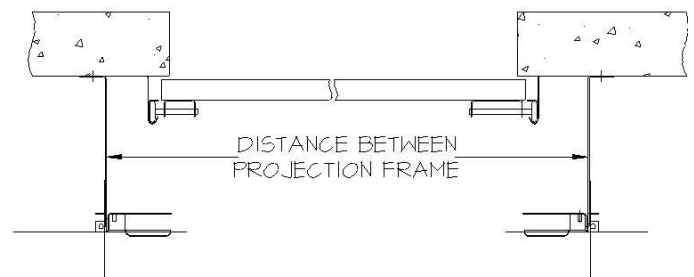

FIG. 1E
- **Determine the position of the Uprights** using the measurement of the distance between the Projection Frames.(Fig. 1e)
- **Align the Projection Frame of right Side Upright** with right perpendicular line marked on the floor.(Fig. 1e)